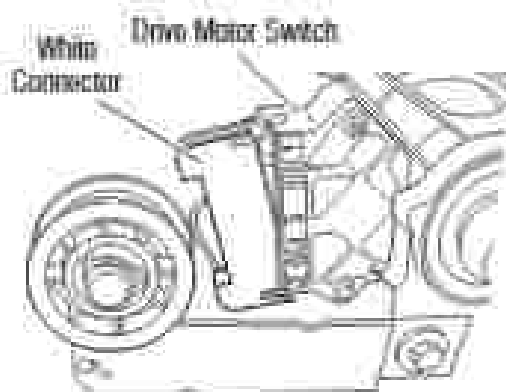

Figure 2 - Remove white connector.
- E. Remove the white connector from the drive motor switch. See figure 2.